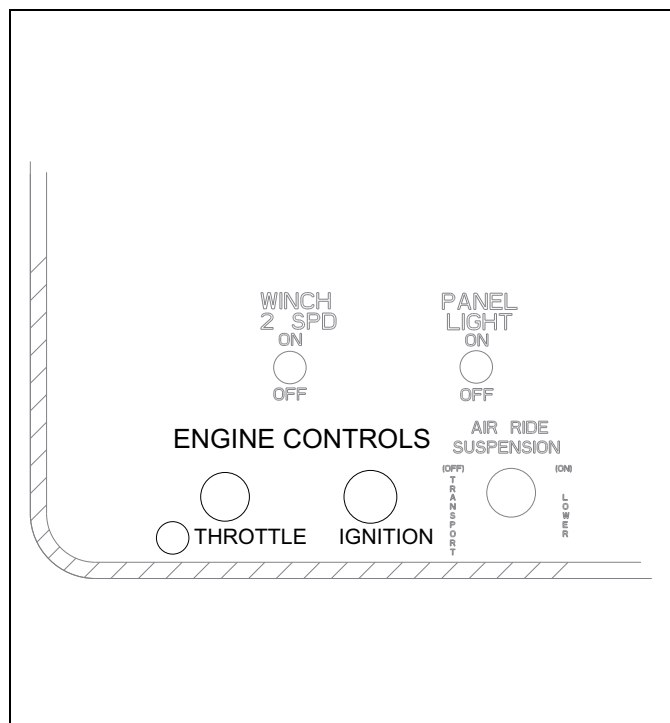

Figure 3-5: Engine Control Panel
2. The Engine Ignition Switch and Throttle are on the Engine Control Panel mounted on the driver's side of the trailer (See Figure 3-5.)
3. The **HYDRAULIC POWER SUPPLY ENGINE THROTTLE** controls the speed at which the engine operates (See Figure 3-5.) It is a variable position control: